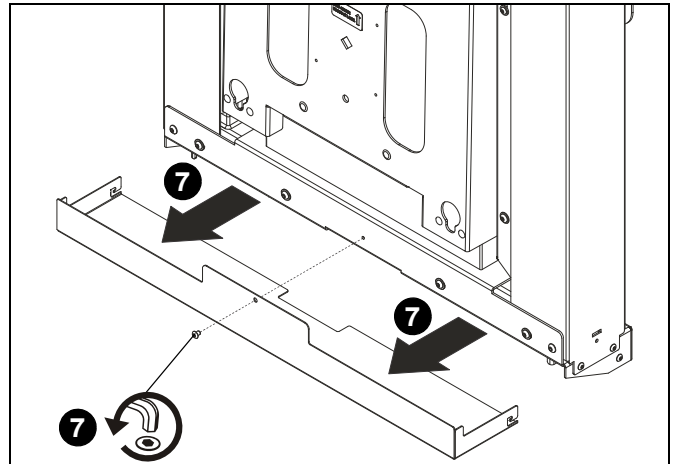

Figure 3
7. Remove screw holding bottom cover to XSD1U assembly (A) and remove bottom cover. (See Figure 3)